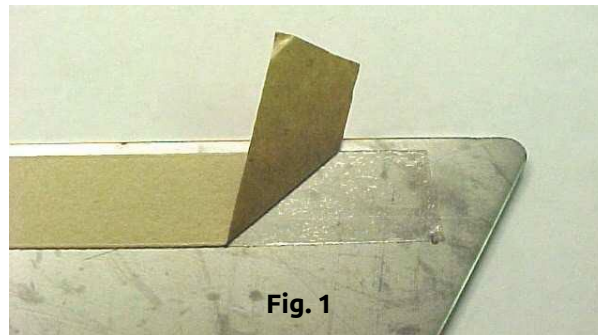

Fig. 1
7. Create a pull-tab on the double-sided tape by peeling and folding a portion of the tape's liner as shown in Figure 1.